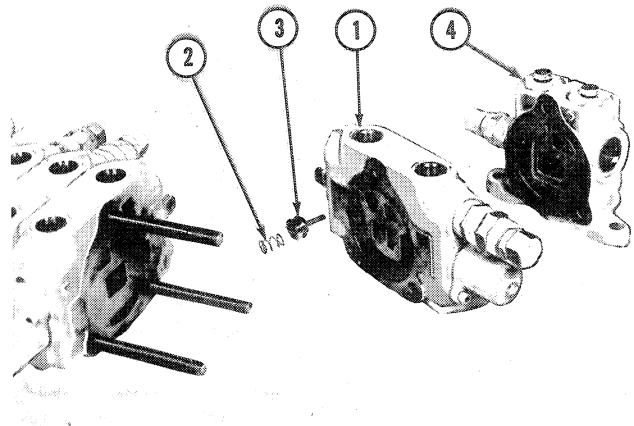

Figure 6
CYLINDER CIRCUIT CHECK VALVE: The spring loaded check valve (3), Figure 6, prevents the cylinders from dropping under load. The check valve